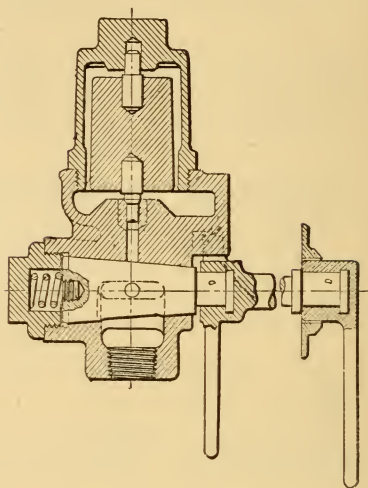

FIG. 17.—PULLMAN RETAINING VALVE, USED ON VESTIBULE CARS.
A. On the outside of the vestibule, in which case a special valve is used, the handle of which extends within the vestibule (see Fig. 17).
Q. What is the purpose of the extension handle (Fig. 17)?